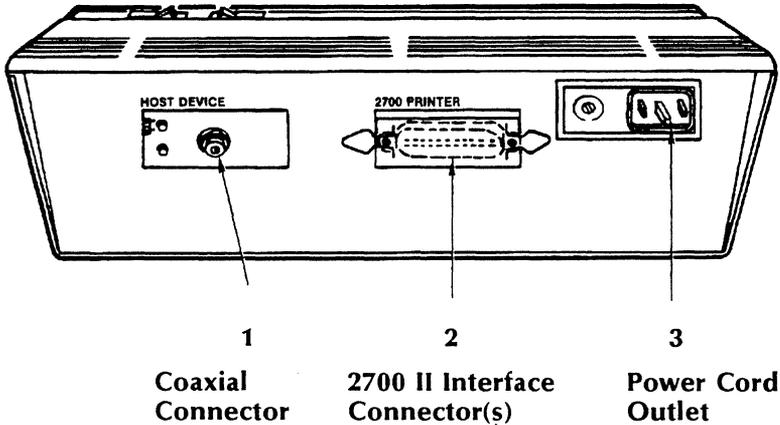

Figure 6-2 Back of 274 IC
1. Locate the coaxial connector labeled **Host Device** on the back of the 274 IC. Fig. 6-2 shows the back panel of the 274 IC.